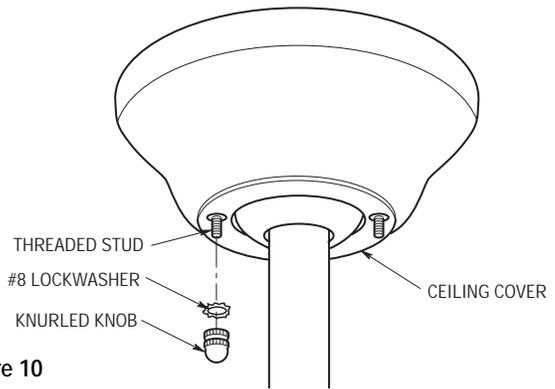

Figure 10
4. Lift the ceiling cover up to the threaded studs and turn until studs protrude through the holes in the ceiling cover (Figure 10).
5. Secure the ceiling cover in place by sliding #8 lockwashers over the threaded studs and installing the two knurled knobs (supplied). (Figure 10). Tighten the knurled knobs securely until the ceiling cover fits snugly against the ceiling and the hole in the ceiling cover is clear of the downrod.